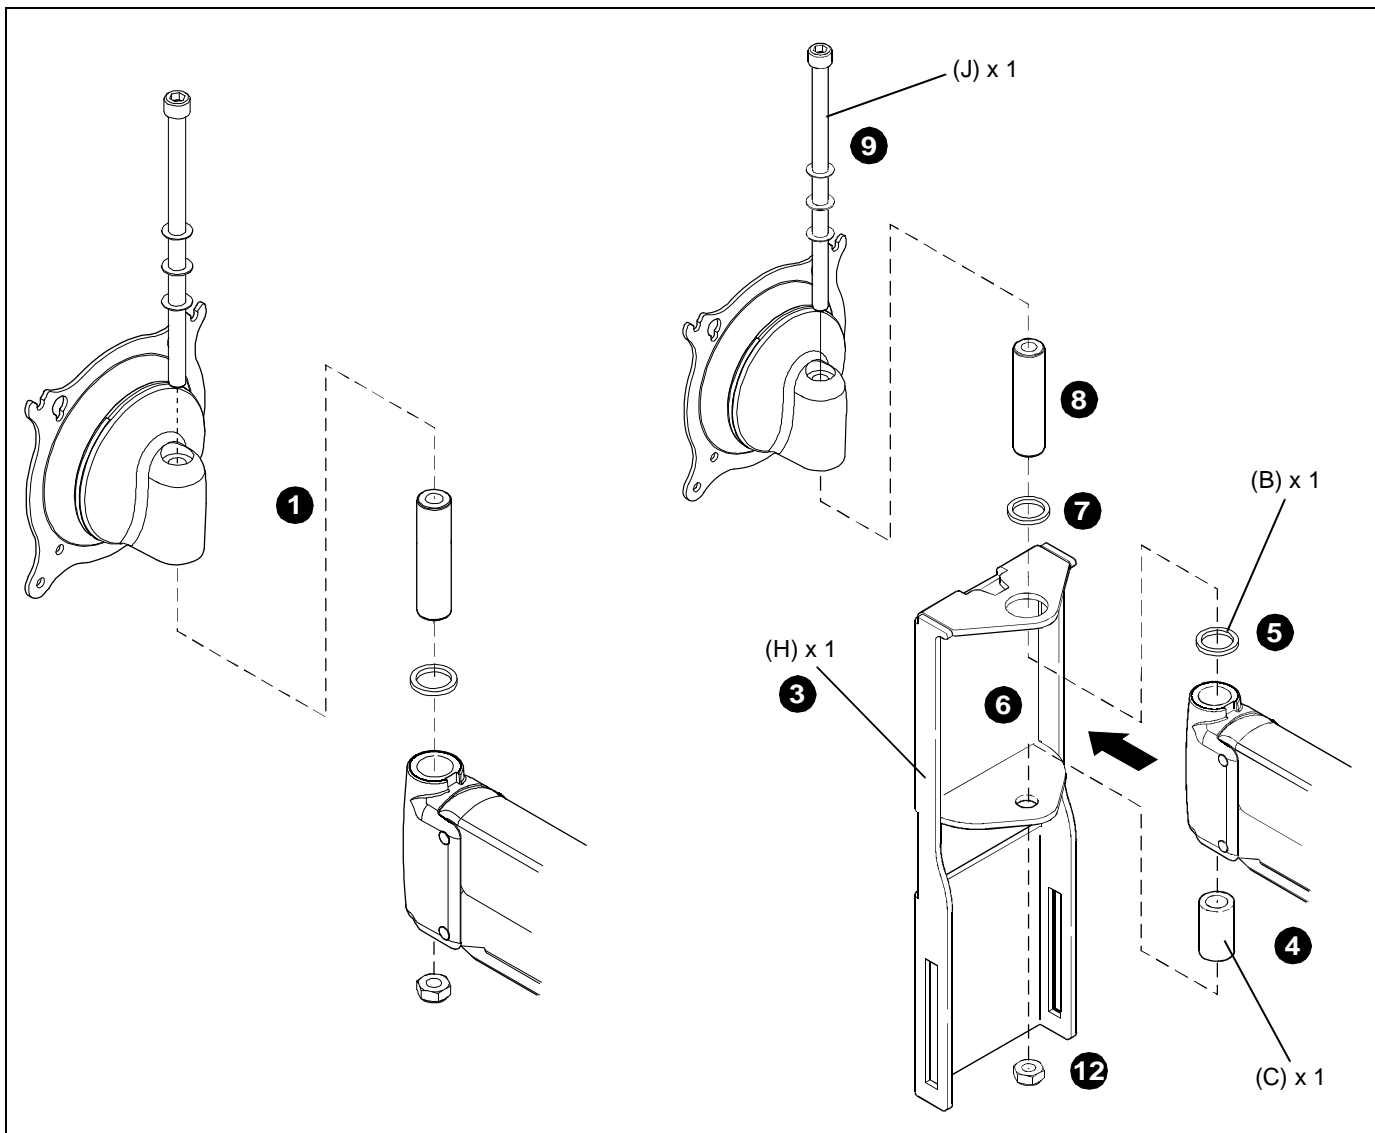

Figure 1
3. Orient vertical tray mounting bracket (H). (See Figure 1)
4. Slide spacer (C) into bottom of height adjustable arm.
5. Place UHM washer (B) on upper area of height adjustable arm.
6. Slide height adjustable arm with spacer and UHM washer (B) in between mounting tabs in vertical tray mounting bracket (H) until mounting holes in arm and bracket align. (See Figure 1)
7. Place UHM washer, removed during step 1, over mounting hole in upper mounting tab of vertical tray mounting bracket (H).
8. Slide spacer, removed during step 1, down through UHM washer and mounting hole in vertical tray mounting bracket (H) and into height adjustable arm. (See Figure 1)
9. Place two flat washers and one Nylon washer, removed during step 1, onto socket head screw (J) provided with tray accessory. (See Figure 1)
10. Align mounting hole in Centris head assembly with mounting hole in vertical tray mounting bracket (H).
11. Slide socket head screw (J) with washers down through Centris head assembly and height adjustable arm.
12. Hold hex nut, removed during Step 1, in bottom of height adjustable arm and secure Centris head assembly and vertical tray mounting bracket (H) to height adjustable arm by tightening socket head screw (J) using 1/4" hex wrench (F).